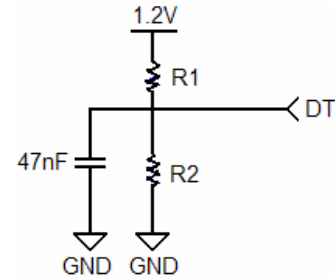
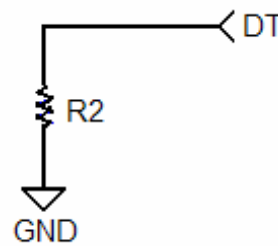

FIGURE 27A.
FIGURE 27B.
**Detection Thershold (DT) Pin Functionality**
The QLx4300-S45 is capable of maintaining periods of line silence on any of its four channels by monitoring each channel for loss of signal (LOS) conditions and subsequently muting the outputs of a respective channel when such a condition is detected. A reference current applied to the detection threshold (DT) pin is used to set the LOS threshold of the internal signal detection circuitry. Current control on the DT pin is done via one or two external resistors. Nominally, both a pull-up and pull-down resistor are tied to the DT pin (Figure 27A), but if adequate control of the supply voltage is maintained to within  $\pm 3\%$  of 1.2V, then a simple pull down resistor is adequate (as in Figure 27B). Resistors used should be at least 1/16W, with  $\pm 1\%$  precision.
The internal bias point of the DT pin, nominally 1.05V, is used in conjunction with the voltage divider (R1 and R2) shown in Figure 27A to set the reference current on the DT pin.
For channels exhibiting more than 25dB of total loss (this includes cable or FR-4 loss) the DT pin should be configured for a reference sink current (coming out of the DT pin) of approximately 2 $\mu$ A. A typical configuration for a 2 $\mu$ A sink current is given in Figure 27C. If the configuration in Figure 27B is utilized, a 525k $\Omega$  resistor is used.